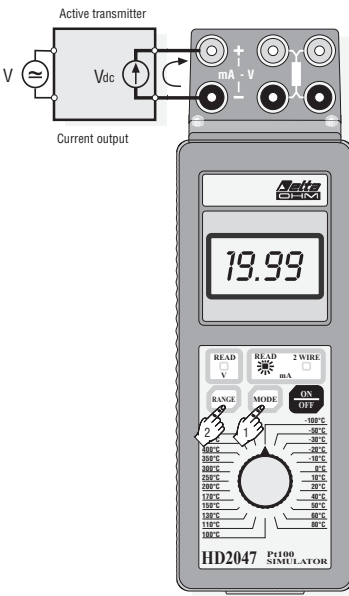

Fig. 2 Continuous current measurement
Procedure (see fig.2):
- connect the wires to the sockets, as reported in fig.2 observing the correct polarity: in order to be read, current must be from the bush +